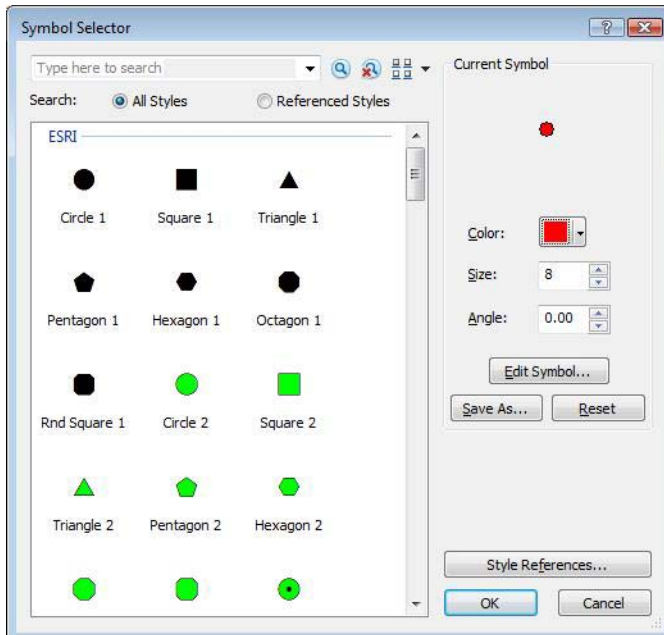

Figure 23.19 Selecting symbols
- Then choose the symbol, color, size etc. for the top group on the dialog that comes up, see Figure 23.19 and press 'OK'